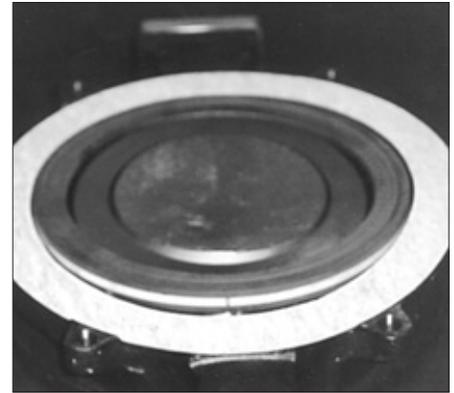

Figure 7 - Proper placement of seat retainer gasket.
1. Check to make sure the disc (2) is in the closed position against the body (1) disc stop.
2. Put the seat retainer gasket (22) on the valve body (1) gasket surface.
3. For lug and double flange style bodies align the seat retainer ring gasket (22) holes with the holes in the body. (see Figure 7)